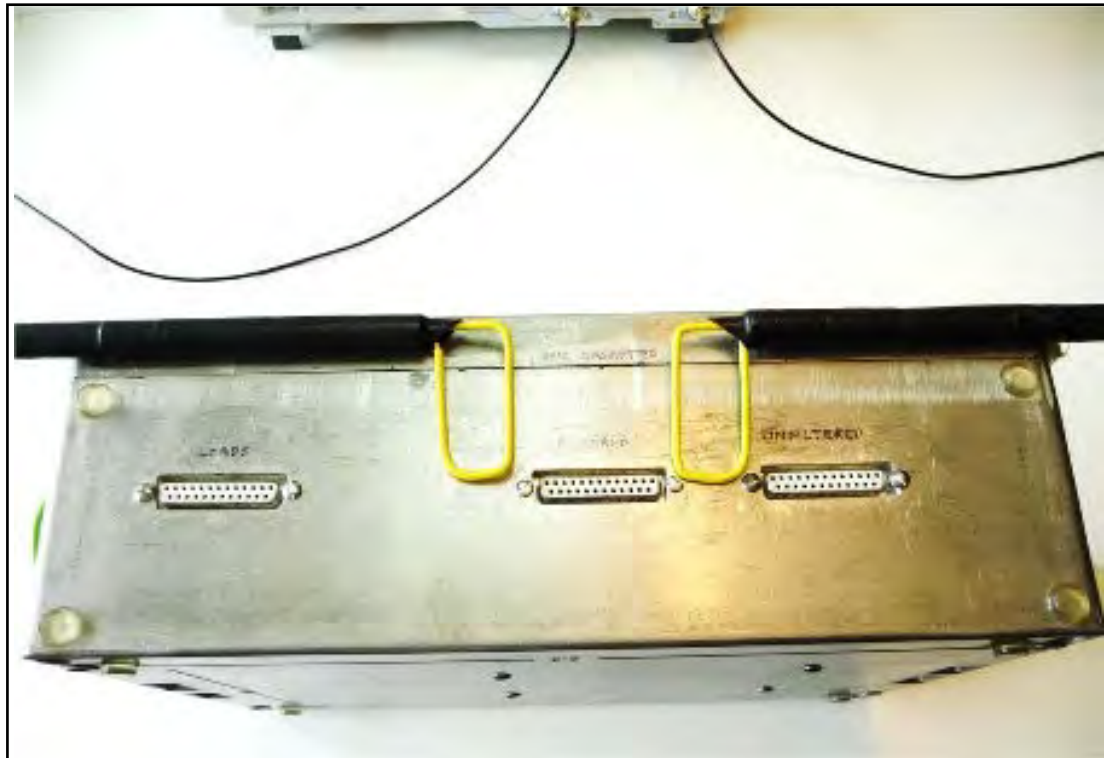
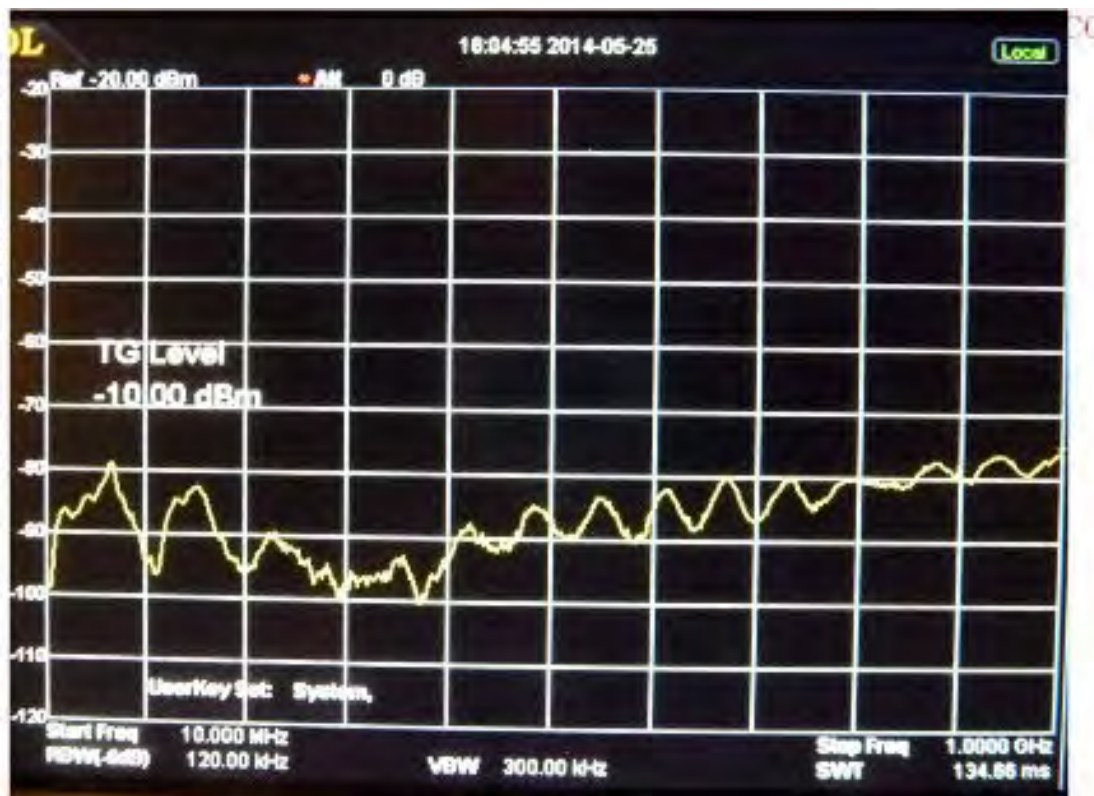

Figure 24 Looking for gasketing imperfections with two CF probes - the set-up (6)
Figure 25 Looking for gasketing imperfections with two CF probes - the display (6)
Figure 24 shows the 2-probe method applied to a lid-to-base joint where we know the conductive gasket is present (it is written on the box!). Let's call this set-up (6). Figure 25 once again shows poor coupling between the two probes (just as we had for set-ups (1), (2), (3) and (5) above).